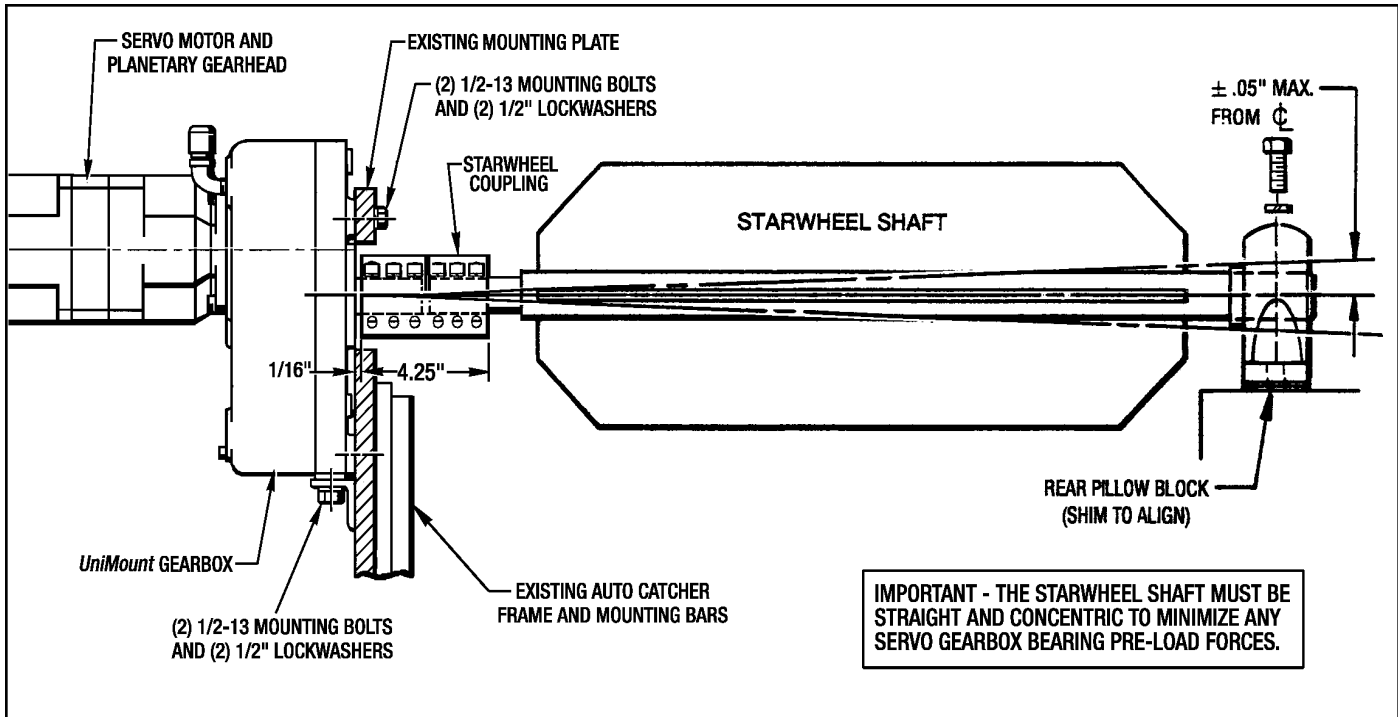

Figure 3.3 - Starwheel Shaft Alignment
6. Bolt the new UniMount Gearbox to the Auto Catcher frame or mounting plate with (4) 1/2"-13 Hex Hd. Bolts and (4) 1/2" Lockwashers as shown in Figure 3.3.
4. Rotate the Starwheel Coupling and Starwheel by hand. Check for bearing movement at the end of the shaft. Keep the shaft deflection less than .050" whenever possible for maximum bearing life in the *UniMount* Gearbox. (See *Figure 3.3* above.)